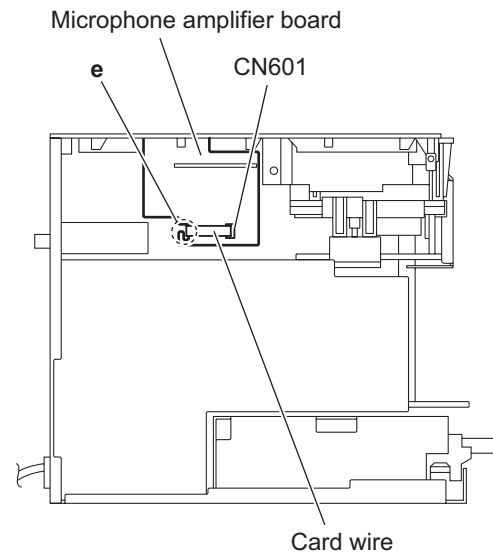

Fig.11
- (3) From the left side of the main body, disconnect the card wire from connector **CN601** on the microphone amplifier board. (See Fig.11.)
When reassembling, pass the card wire through the section **e** of the microphone amplifier board before connecting the card wire to the connector **CN601**. (See Fig.11.)